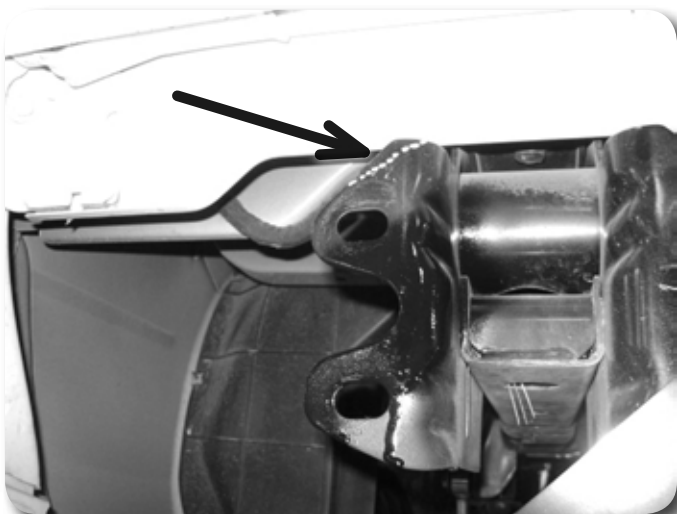

Figure 28
43. Remove the area shown from the factory bumper brackets to create clearance for the head of the stock bolt in the relocated position. Figure 28